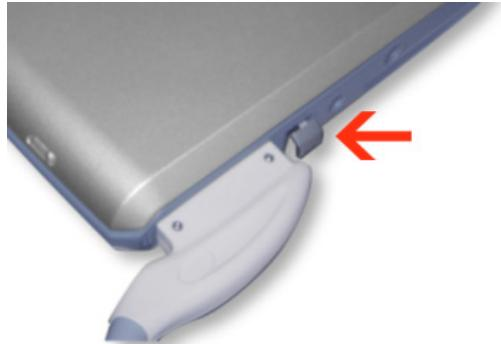

Figure 3-27 Probe Connection Locking Lever
- 4) Press the probe connector locking lever *downwards* (refer to Figure 3-27).